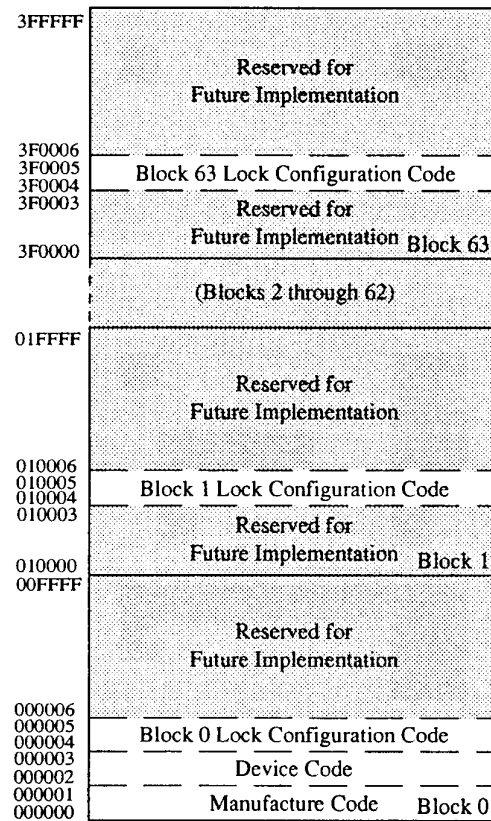

Figure 2. Device Identifier Code Memory Map
The read identifier codes operation outputs the manufacturer code (Block 0), device code (Block 0), and block lock configuration codes (for each block), see Figure 2. Using the manufacturer and device codes, the system CPU can automatically match the device with its proper algorithms. The block lock codes identify locked and unlocked blocks.
IA = Identifier Code Address: see Figure 2.
The host initiates the identifier code operation by writing the Read Identifier Codes command. Following the command write, read cycles from addresses shown in Figure 2 retrieve the manufacturer, device and block lock configuration codes (see Table 3 for identifier code data). To terminate the operation, write another valid command. Although Table 3 lists the device code as D4D4, other Sharp's Flash Memory Miniature Card could also have device codes AAAA, A6A6 or A7A7. Host software should check for all four cases for compatibility with future cards.
1. \times selects the specific block status code to be read. See Figure 2 for the device identifier code memory map.